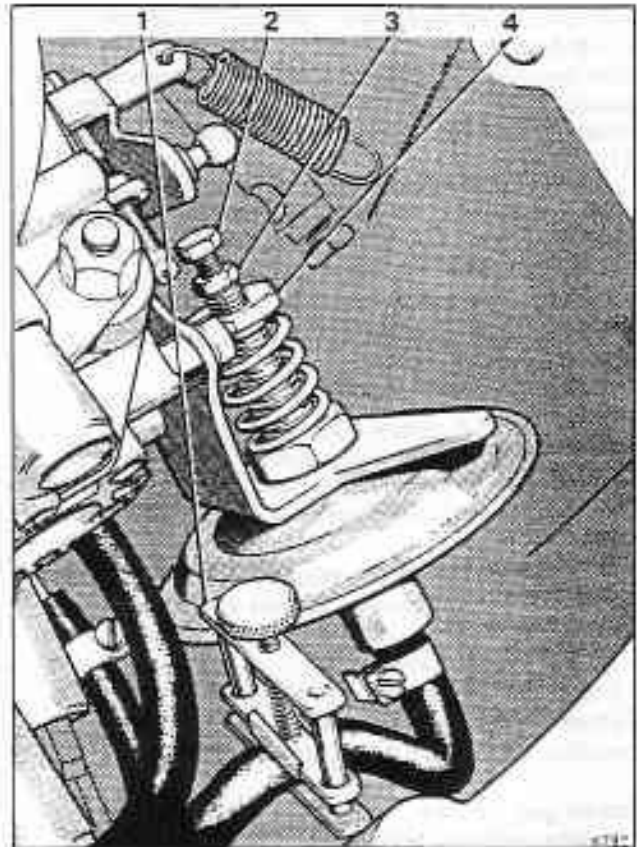

Fig. K11-29 Setting the throttle jack/damper
The throttle jack/damper setting is varied by moving the adjusting screw relative to the throttle lever (see fig. K11-29).
1. With the engine stopped but at its normal operating temperature, clamp the throttle jack/damper hose using the clamp shown in figure K11-29. This will prevent actuation of the throttle jack on start up.
4. If the throttle jack/damper setting is outside these limits, slacken the setting screw lock-nut (see fig. K11-29) and adjust the screw to give an engine speed of 1600 rev/min \pm 50 rev/min. Allow the speed to stabilize for 30 seconds before tightening the lock-nut.
6. Remove the clamp (see fig. K11-29) from the throttle jack/damper signal hose, this will allow the throttle jack/damper to retract. Measure the gap between the adjusting screw and the throttle lever with the engine idling at 650 rev/min.
7. Set the gap between the adjusting screw and the throttle lever by means of the large nut (see fig. K11-29) to between 0,13 mm and 0,25 mm (0.005 in and 0.010 in).